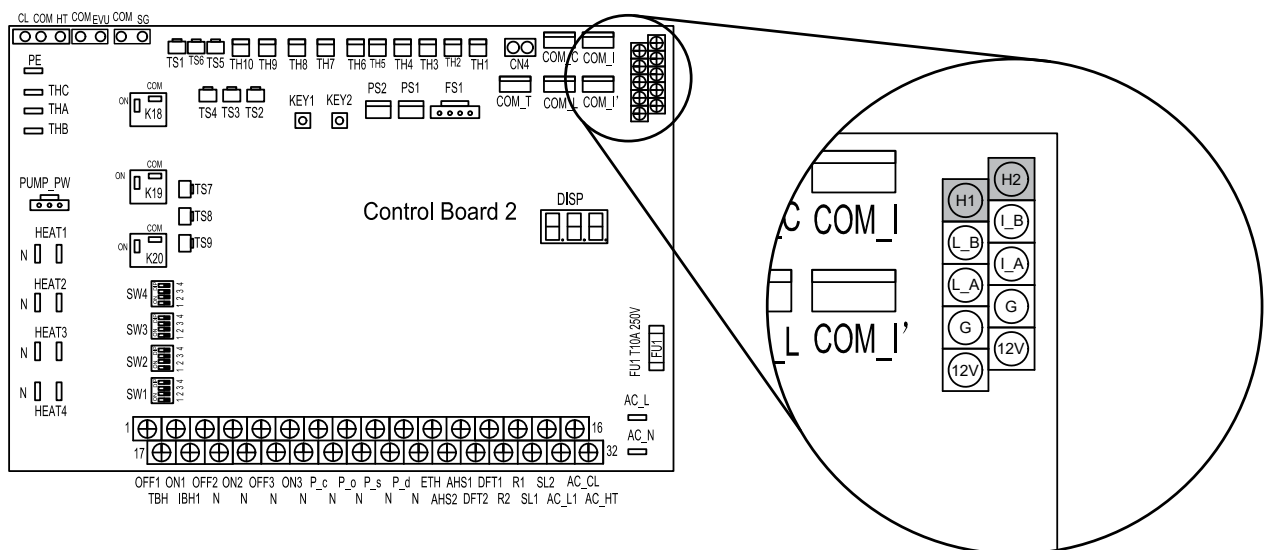

Figure 7-1: Hydraulic PCB U19 communication ports
5. Connect the 2 core modbus cable to the H1(D-) and H2(D+) terminals on the Hydraulic PCB board. Refer to Figure 7-1.